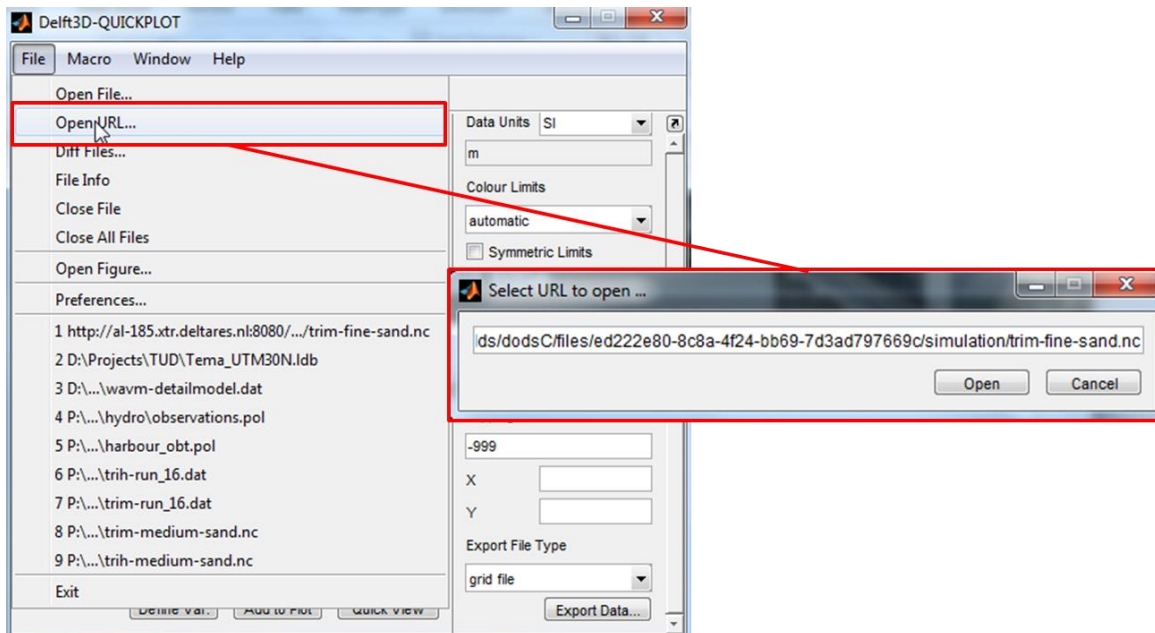

Figure 3.33 Open data URL via OPeNDAP protocol in QUICKPLOT
2. Open QUICKPLOT and select "File" - "Open URL..." and enter/paste the data url of the GT model results (Figure 3.33)